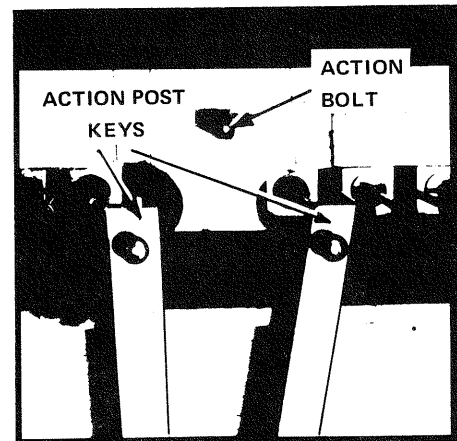

FIGURE 9-58 Action Post Keys.
If necessary, expose the Keybed and remove all Keys, except Keys 5 and 84 and the four (4) Action Post Keys. See FIGURE 9-58 and the NOTE below.
The Action Post Keys are those immediately to the right and left of the two (2) center Action Bolts (See FIGURE 9-58).